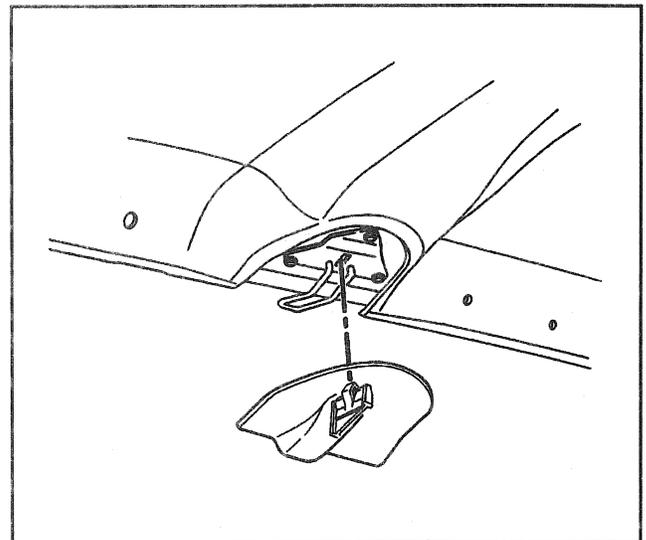

Figure 40—Latch Striker Cover
Remove or Disconnect (Figures 40 and 41)
1. Latch striker cover (Figure 40).
Install or Connect (Figures 40 and 41)
2. Latch striker cover (Figure 40).